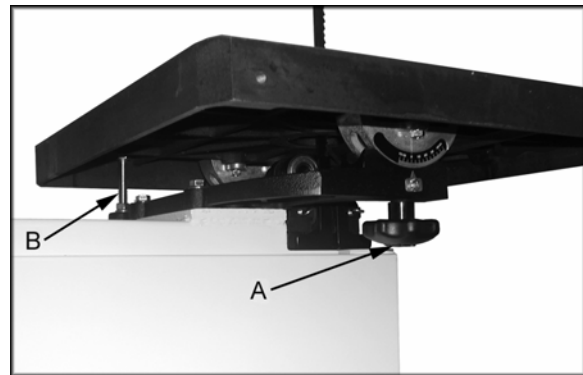

Figure 13
2. Loosen the lock knobs (A, Fig. 13).
Note: Table stop bolt (B, Fig. 13) must be removed to tilt table to the left.